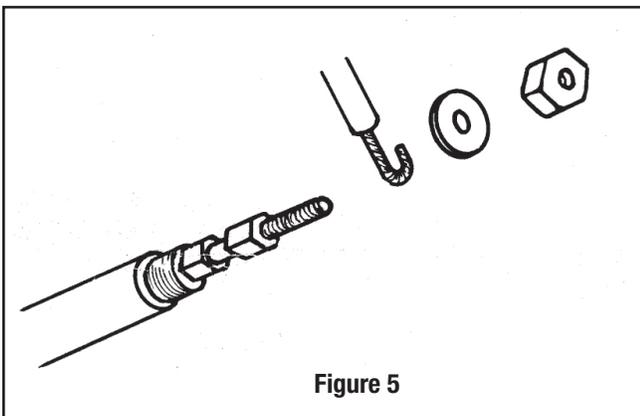

Figure 5
6. Assemble terminal, nut and wire as shown in Fig. 5.